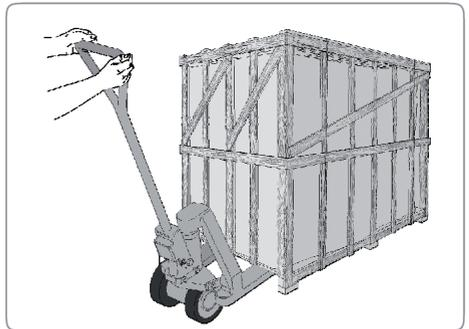
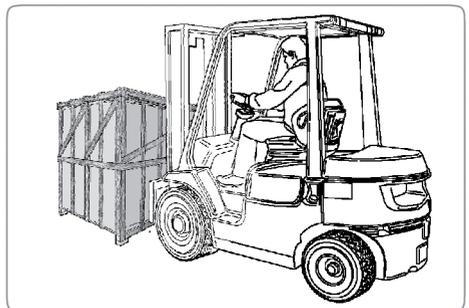
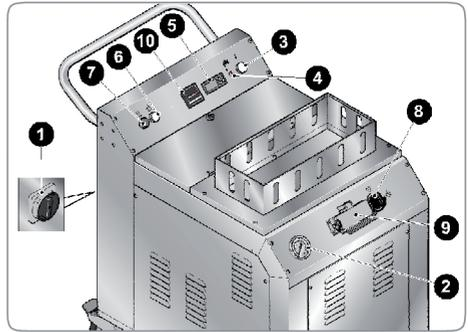
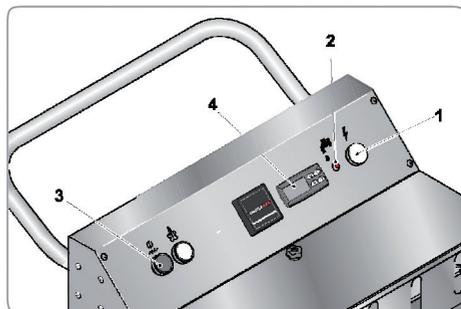

Fig. 3
Fig. 4
Fig. 6
Fig. 8
Insert the forks of the transpallet (Fig. 3) or forklift truck (Fig. 4) beneath the crate. Make sure they are positioned correctly with respect to the centre of gravity.
CONTROLS AND MAIN PARTS (Fig. 6)
The signal lamp (1-Fig.8) on the control panel indicates correct machine feeding. Turn on the general switch for pump/steamer feeding (3 Fig.8): the temperature display (4 Fig.8) will blink for about 4-5 seconds and will then stabilize in indicating the internal boiler temperature. Low water level in the tank is indicated by the no-water signal lamp (2) and an acoustic signal. The signal lamp (2 Fig. 8) will turn on for about 2 seconds and then will turn off.
The machine is ready to deliver steam when a temperature of around 180°C is shown on the display (4, Fig. 8) and a pressure of about 10 bar is shown on the gauge (2, Fig. 6). When the water level in the tank is low, the warning light (2, Fig. 4) will start to flash and an acoustic signal will sound.
Wenn der Minimalwasserstand überschritten ist, erlischt die Signalleuchte und das Akustiksignal schaltet ab (4, Fig. 6).
Während der Befüllung des Kessels mit Wasser leuchtet die Signalleuchte (4, Fig. 6) auf, es ertönt kein akustisches Signal.
- With the tank full and the boiler empty, after feeding the generator through the switches (see the "PREPARATION" paragraph), the system controls the water filling pump until the correct level is reached in the boiler. In this phase the heating element is deactivated, while the signal lamp (4 fig.6) is on without blinking and without an acoustic signal; this indicates the filling procedure in process.
- Once filling is completed, the pump is turned off, and heating is simultaneously enabled through the boiler heater; the signal lamp is turned off (4 fig.6).
During normal level refilling, the heating element remains enabled for heating and the signal lamp (4 fig. 6) is on without blinking and without acoustic signal.
- If during filling the level probe located in the tank should remain exposed, the system immediately stops refilling operations and the signal lamp (4 fig. 6) starts blinking together with an intermittent acoustic signal.
- Each time the tank level probe senses a low water level, the system immediately stops refilling operations and the signal lamp (4 fig.6) starts blinking together with an intermittent acoustic signal.
With the 4 buttons located on the thermoregulator (5 fig. 6) proceed as follows: